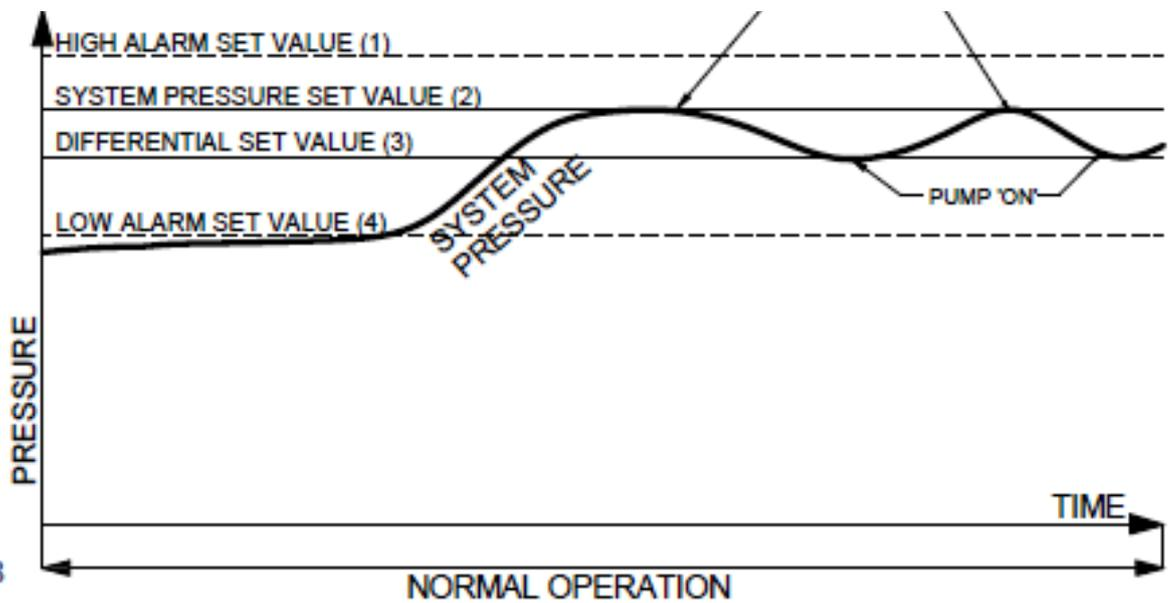

Fig. 18
P1 System pressure (2) see Fig. 18	Sets the required system pressure. Set in 0.1 bar increments up to the maximum set value for the SPU model. SPU 130 & 230, 3.0 bar max.
P2 Differential pressure (3) see Fig. 18	Sets the pressure the SPU will turn on at as the system pressure falls. Relative to the set system pressure. Set in 0.05 bar increments below the System pressure (2), cannot be set above 0.1 bar below the System pressure (2).
P3 Hi Alarm (1) see Fig. 18	Sets high system pressure alarm. Set in 0.05 bar increments above the System pressure (2). Cannot be set below System pressure + 0.5 bar. Alarm auto resets when system pressure is reduced below alarm level.
P4 Lo Alarm (4) see Fig. 18	Sets low system pressure alarm. Set in 0.05 bar increments below the System pressure (2) - Differential pressure (3) - 0.05 bar. Alarm auto resets when system pressure is increased above alarm level
During normal operation the Flowpress Mini will monitor the system pressure and repressurise the system if the system pressure drops below the system pressure– differential pressure. See Fig. 18.